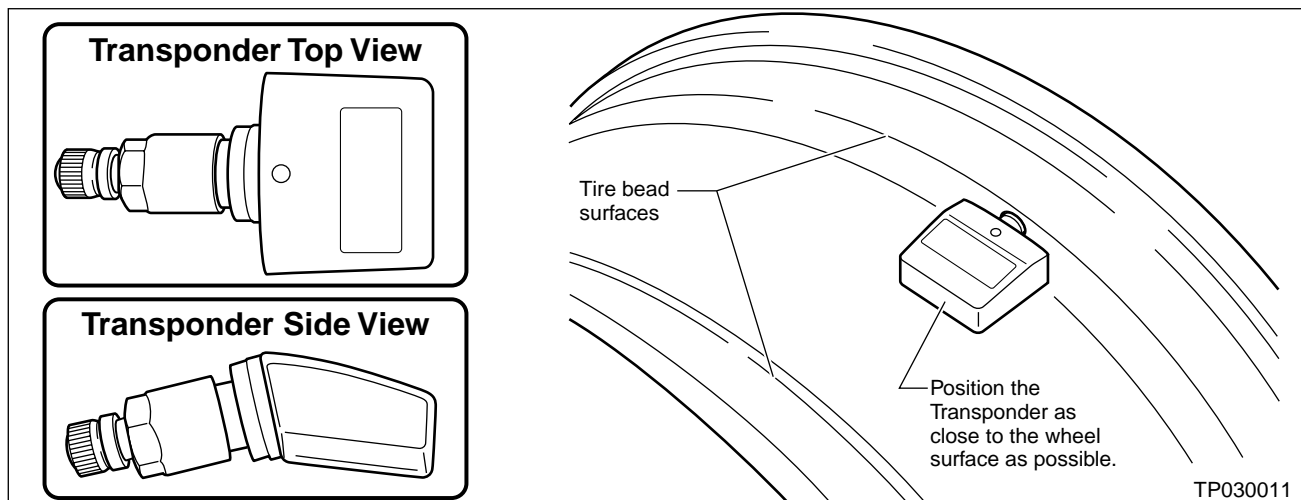

Figure 7
- When remounting tires, make sure the TPMS Transponder is positioned as close to the wheel surface as possible (see Figure 7).